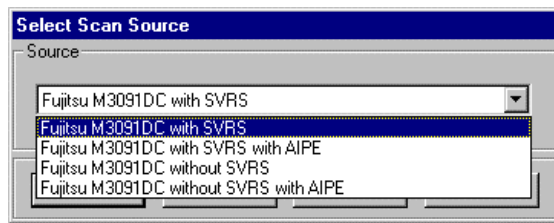

Figure 43. Select Scan Source Dialog Box – ImageControls
- 4 Select the scan source as shown in Figure 43.